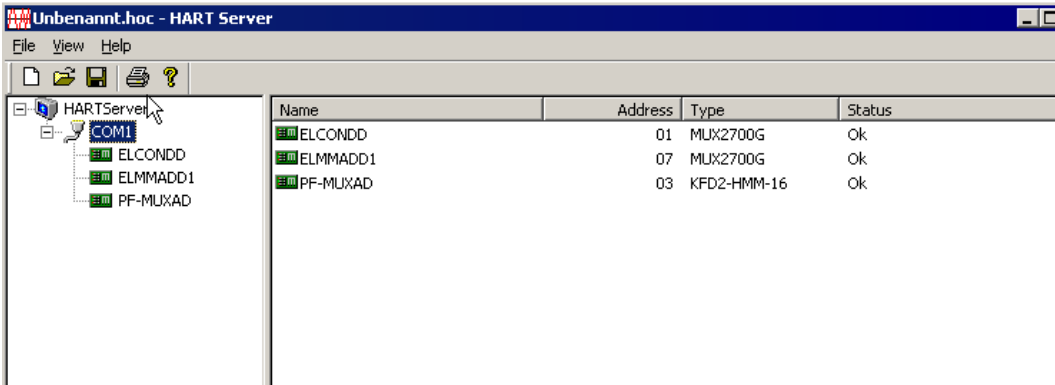
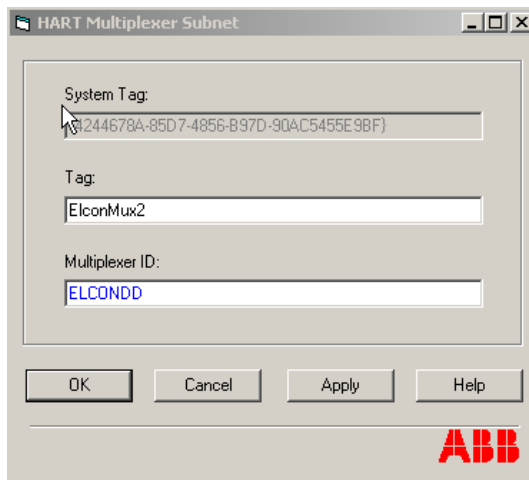

Figure 71. Scanned and Found Multiplexer
Figure 74. Assigning of the Multiplexer object to the hardware
10. Right-click and select **Learn**. This scans the network for the available Multiplexer and lists them in a screen, similar to the one shown in Figure 71. Example: If a Pepperl & Fuchs Multiplexer is connected to the network, it will be found and added to the network.
2. Click **Multiplexer assignment**. A screen, similar to the one shown in Figure 74 is displayed.
A Multiplexer tag name entered in HART Server as shown in Figure 71 should be entered as a Multiplexer ID in Figure 74 for corresponding Multiplexers.